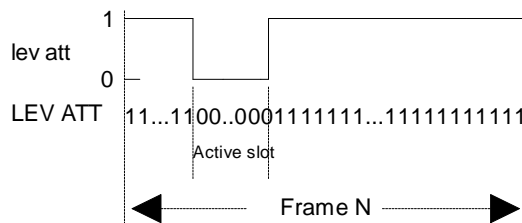

Fig. 2: Level switching with LEVATT signal
- Program the signal LEV ATT for level switching for one frame (Fig. 2).